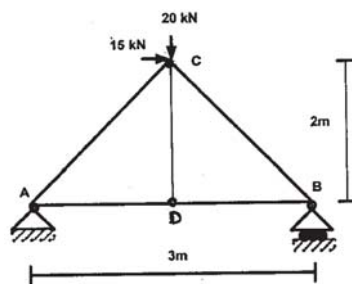

Fig. 2.a
Q4) a) Consider the bar shown in Figure 2. An axial load $P = 15000$ N is applied as shown. Using Finite Element Method, find the following
- Q2) a) Using Flexibility or Stiffness method, analyze the truss shown in the Fig. 2.b. Find the joint displacements, support reactions, bar forces and bar elongations. Take $AE = 5500$ kN for all the bars. [12]